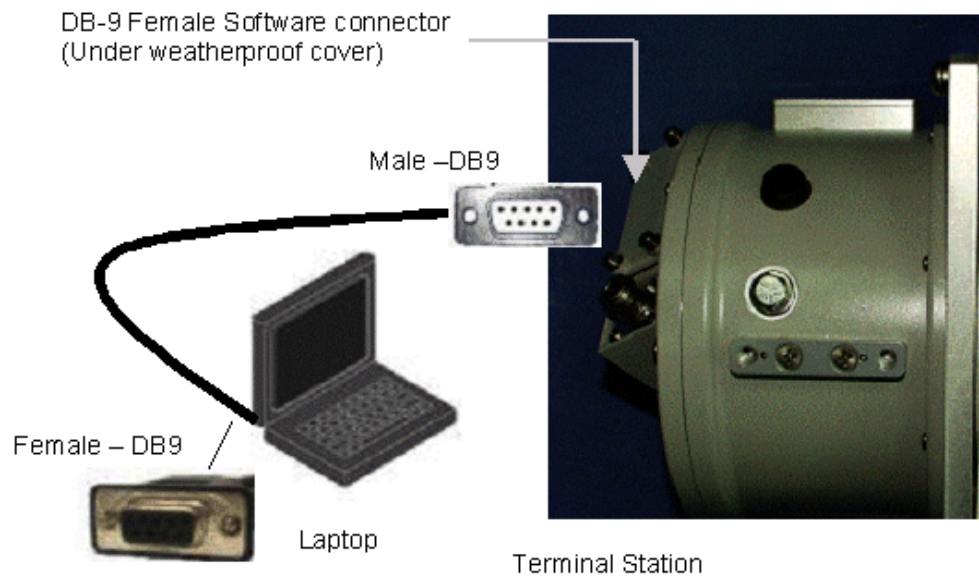

Figure 9-13: TS Software Connection
1. Referring to Figure 9-13, locate the software connector weatherproof cover on the Terminal Station. Release the four fixing screws and put them along with the cover in a safe place.